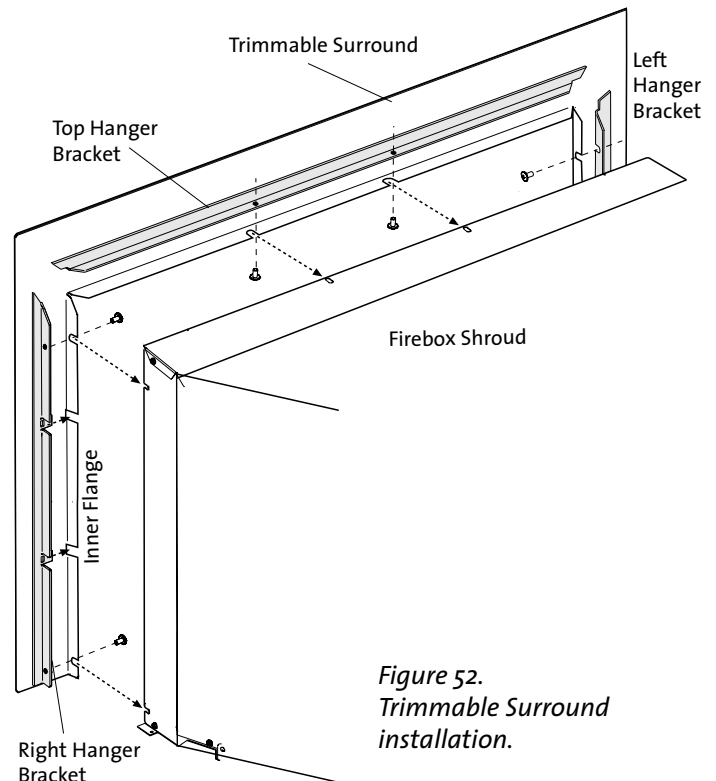

Figure 52.
2. Very loosely attach the three Hidden Surround Hanger Brackets to the insert firebox using the ten, M6 x 8 phillips head screws as shown in Fig. 52.